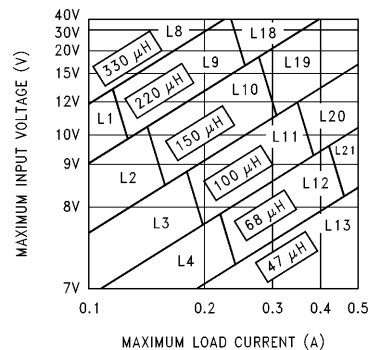

FIGURE 6. LM2594-5.0
A. Use the inductor selection guide for the 5V version shown in *Figure 6*.
B. From the inductor value selection guide shown in *Figure 6*, the inductance region intersected by the 12V horizontal line and the 0.4A vertical line is 100 μ H, and the inductor code is L20.